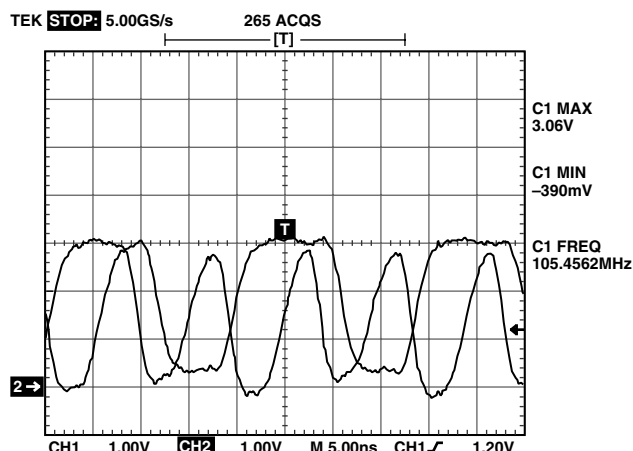

Figure 16. Data Bit and Clock at 37-Pin Connector
The ADC digital outputs are latched on the board by two 574s; the latch outputs are available at the 37-pin connector at Pins 25–36. A latch output clock (data ready) is available at Pin 21, with the complement at Pin 2. There are series termination resistors on the data and clock outputs. These can be changed if required to accommodate different loading situations. Figure 16 shows a data bit switching and output clock (DR) at the connector.